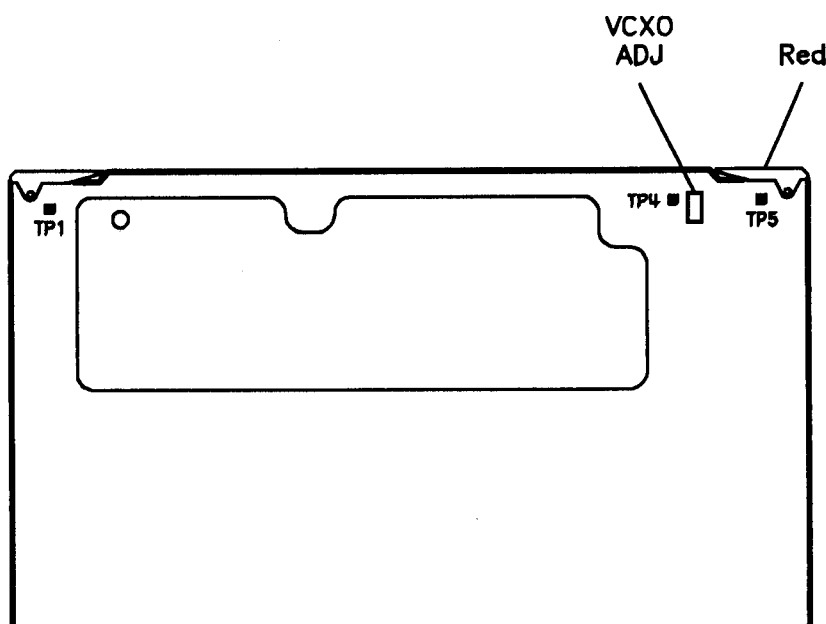

Figure 5-8. VCXO Adjustment Location
3. Otherwise, locate the A12 assembly (red extractors) and adjust VCXO ADJ (see Figure 5-8) for a frequency counter reading as close to 20.0 GHz as possible.